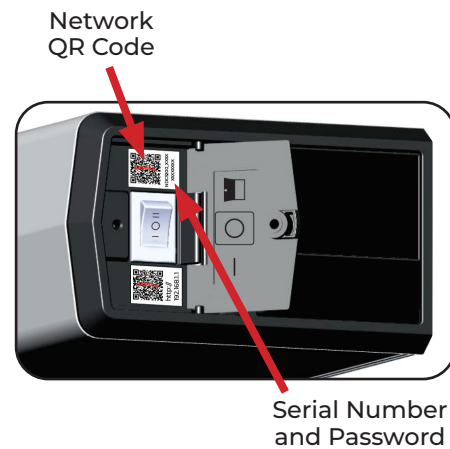

Figure 14
- The operator serial number and password are located next to the Network QR code on the operator end cap. (Figure 14)